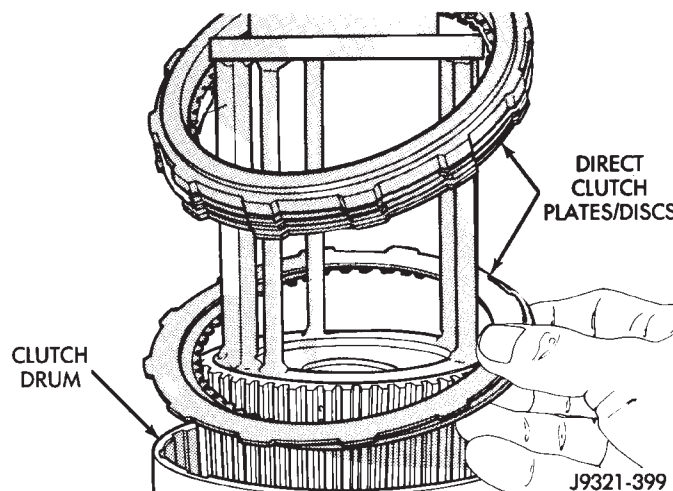
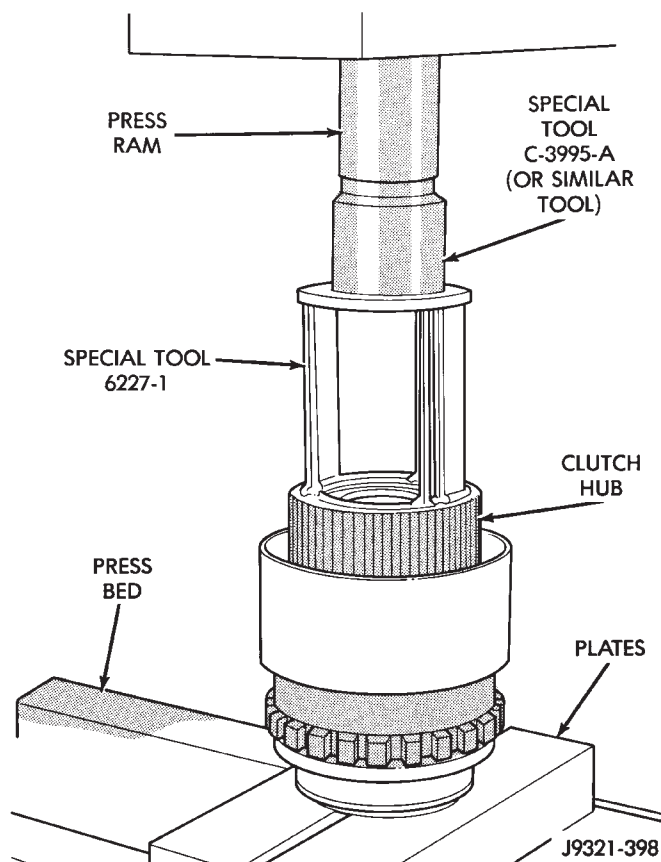

Fig. 294 Seating Clutch Pack In Drum
Fig. 295 Geartrain Mounted In Press
(22) Position Compressor Tool 6227-1 on clutch hub (Fig. 294).
(23) Position Tool C-3995-A or similar type tool on top of Tool 6227-1 (Fig. 295).
(24) Compress clutch hub and spring just enough to place tension on hub and hold it in place.
(25) Slide direct clutch pack upwards on hub (Fig. 294). Then set clutch pack on edge of clutch hub and compressor tool as shown.
(26) Slowly compress clutch hub and spring (Fig. 294). Compress spring and hub only enough to
(27) Realign clutch pack on hub and seat clutch discs and plates in clutch drum (Fig. 294).